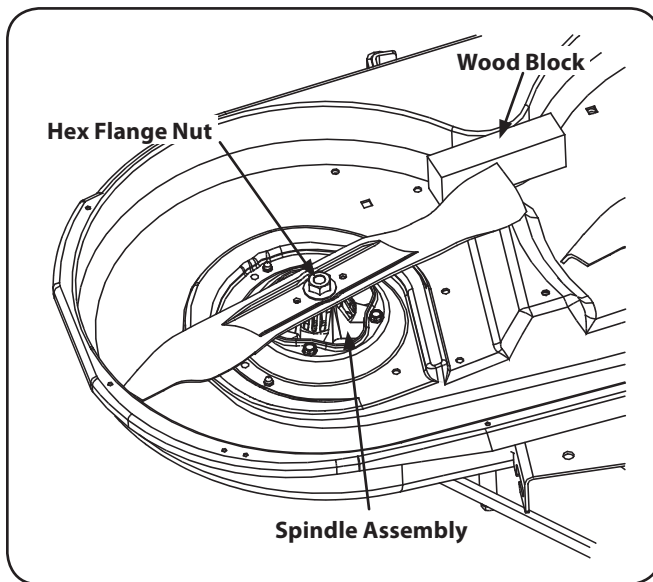

Figure 7-11
2. Use a $\frac{15}{16}$ ” wrench to hold the hex nut on top of the spindle assembly when loosening the hex nut securing the blade. A block of wood may be placed between the deck housing and the cutting edge of the blade to help in breaking loose the hex nut securing the blade. See Figure 7-11.